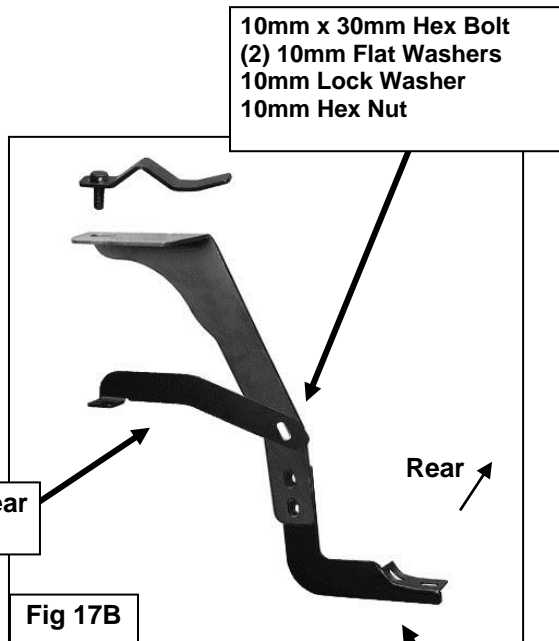

Fig 17B
- c. Select the driver side 2011-15 Rear Support Bracket, (**Figure 17A**). Attach the 90-deg bent end of the Support Bracket to the hole in the top of the leaf spring bracket with (1) 12mm x 35mm Hex Bolt, (2) 12mm Flat Washers, (1) 12mm Lock Washer and (1) 12mm Hex Nut, (**Figure 17B & 17C**). Bolt the flat end of the Bracket to the front of the Bed Bracket with (1) 10mm Hex Bolt, (2) 10mm Flat Washers, (1) 10mm Lock Washer and (1) 10mm Hex Nut, (**Figure 17B**). Leave hardware loose at this time.